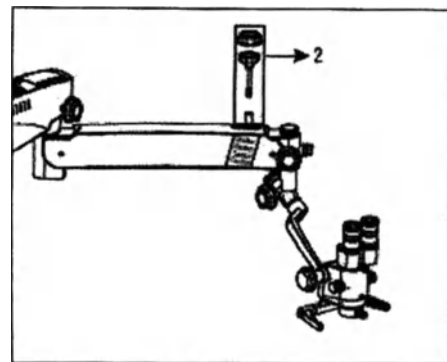

Fig. 9
6.6. Remove warning tape from suspended arm. Take protecting screw out of suspended arm with the help of wrench 5.0 mm. Replace protective screw with fixation knob, packing washer and cap (2). Tighten in full. See figure 9.